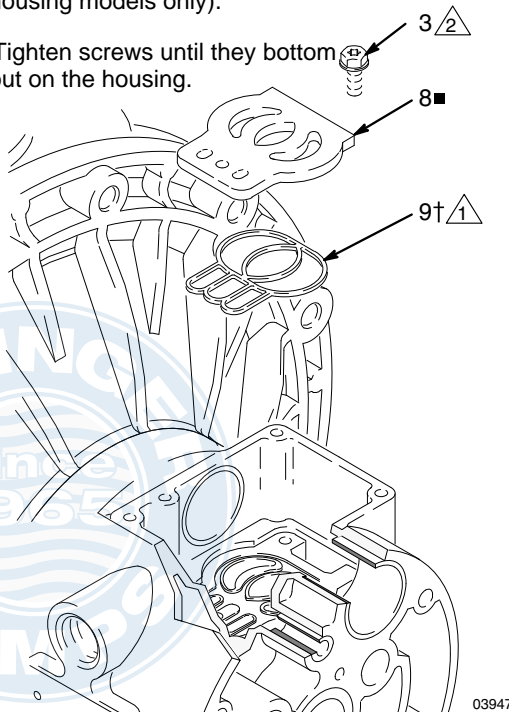

FIG. 9
5. Inspect the valve plate (8) in place. If damaged, use a Torx (T20) screwdriver or 7 mm (9/32") socket wrench to remove the three screws (3). Remove the valve plate (8) and, on aluminum center housing models only, remove the seal (9). See Fig. 9.
2. On aluminum center housing models, install the valve plate seal (9†) into the groove at the bottom of the valve cavity. The rounded side of the seal **must face down** into the groove. See FIG. 9.
3. Install the valve plate (8▪) in the cavity. On aluminum center housing models, the plate is reversible, so either side can face up. Install the three screws (3), using a Torx (T20) screwdriver or 7 mm (9/32") socket wrench. Tighten until the screws bottom out on the housing. See FIG. 9.